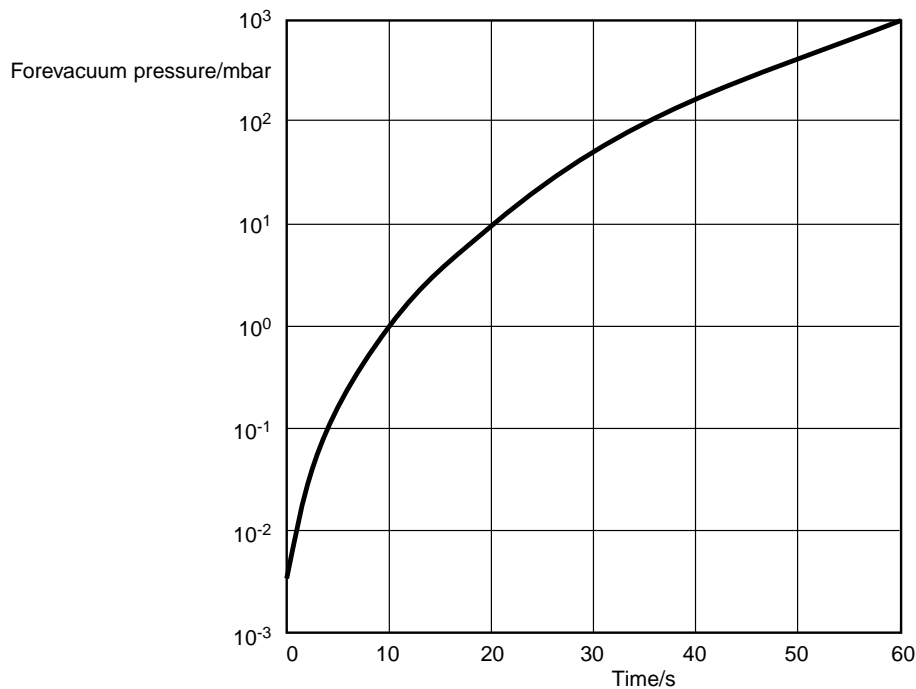

Fig. 22 Curve for safe venting of the MAG; pressure rise as a function of venting time
- When venting the MAG the values shown in the pressure rise curve must be maintained; see Fig. 22.